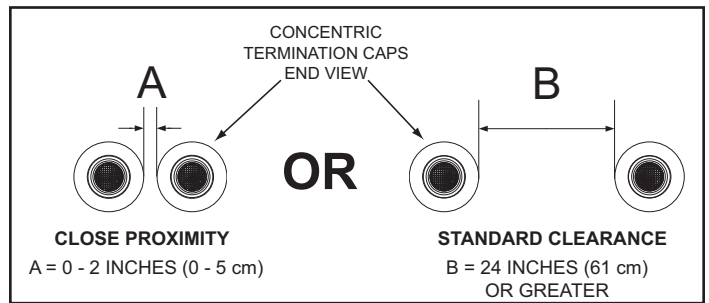

Figure 31. Two Concentric Terminations
When installing multiple concentric terminations through a roof or through a sidewall the clearances shown in *Figure 31* must be maintained.
1. The clearance between multiple termination caps must be zero inches (touching) to a maximum of two inches (5 cm), dimension A - *Figure 31*, when installing concentric terminations in close proximity. See *Figure 36* (page 32).
2. The clearance between multiple termination caps must be increased to a minimum of 24 inches (61 cm), dimension B - *Figure 31*, when installation in close proximity (above) is not possible. This is the standard clearance.
2. Four is the maximum number of concentric terminations that may be installed in a group where all terminations are in close proximity as shown in *Figure 31*.
Two concentric terminations may be installed in close proximity as shown in *Figure 36* or with standard clearances when this arrangement is not possible. See *Figure 31* (page 31) for detailed information on clearances. See *Figure 32* (page 31) when installing three concentric terminations.